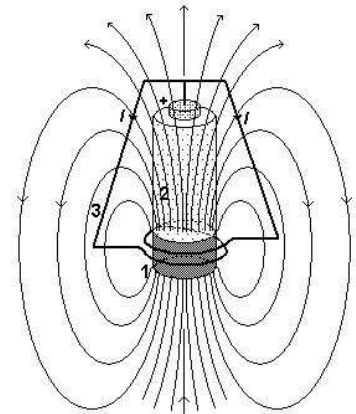

Fig. 1. Lay-out of the engine
3. Loop (1-2 mm diameter) from Cu wire (1-2 mm dia.), see fig. 1.
Electromagnetic engines working is based on the principle of interaction between the magnetic field and the electric current. The permanent (and strong) neodymium magnet creates the magnetic field with a configuration shown on the fig. 1. In the region of the upper segment of the loop the field is almost vertical, and in the region of the lower segment it is directed in the opposite direction as compared to the upper part, and it is much weaker 5).